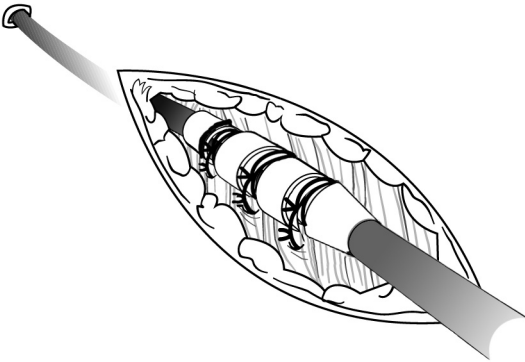

Figure 10. Example of suture sleeve, percutaneous implant technique
1. Peel back the introducer sheath and slide the suture sleeve deep into the tissue (Figure 10 Example of suture sleeve, percutaneous implant technique on page 24).